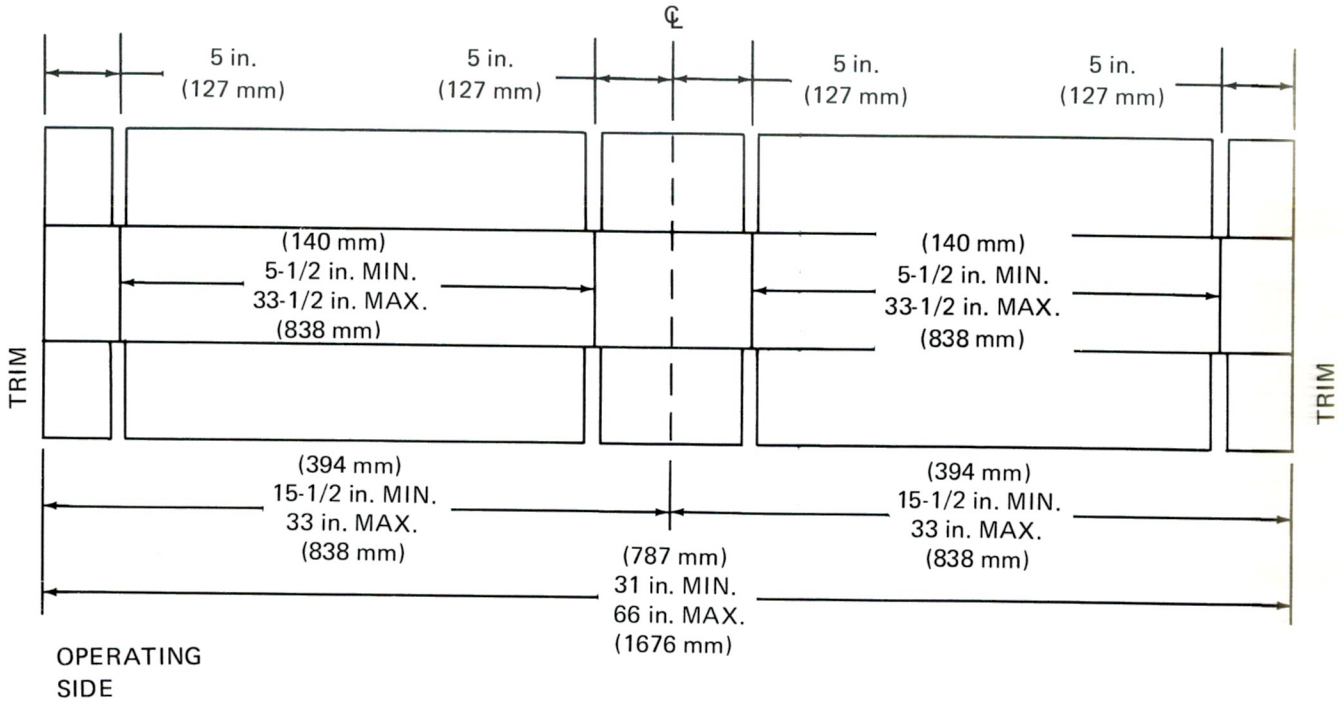

FIGURE 9-6. 5 in. (127 mm) END PANEL WITH TRIM
b. 5 in. (127 mm) End Panel With Trim (Figure 9-6)